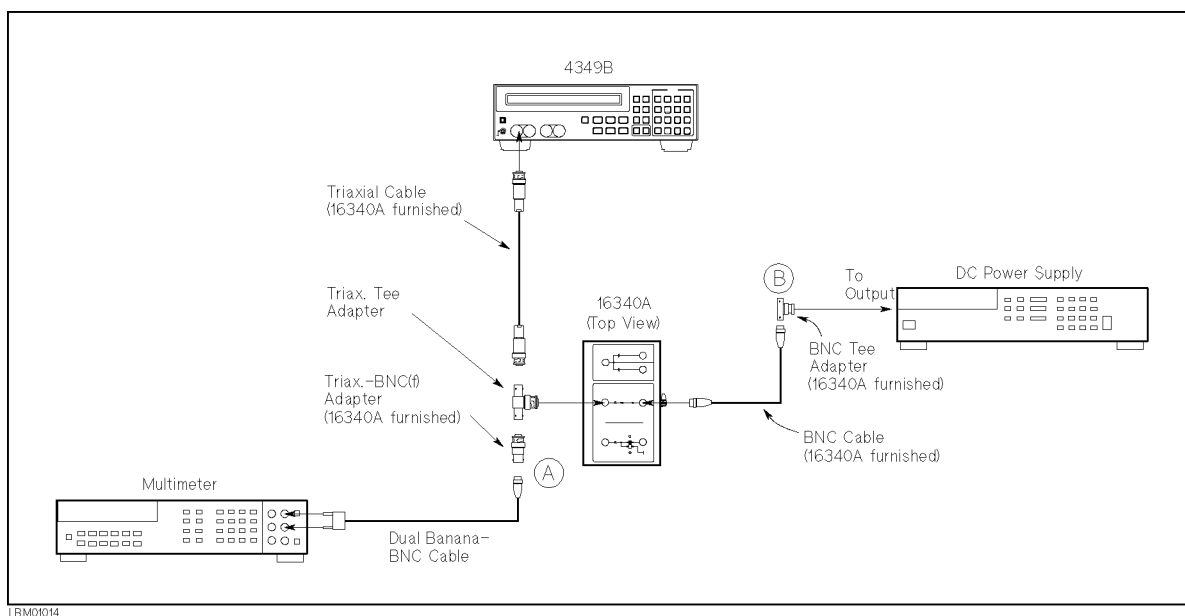
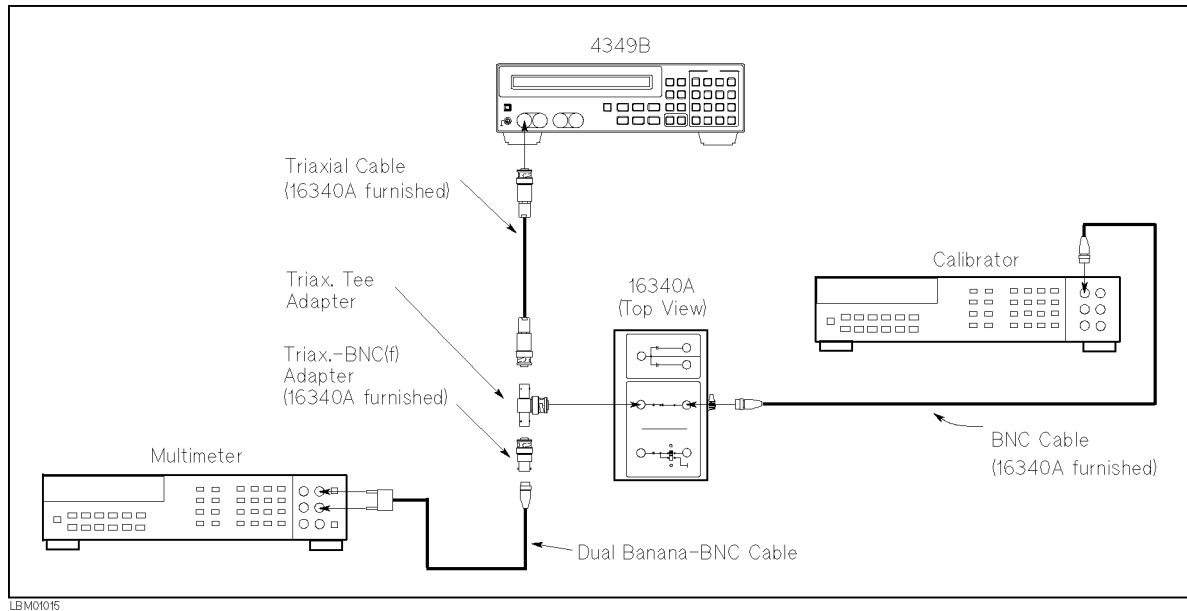

Figure 9-2. Ammeter Input Resistance Test Setup Using DC Power Supply
Figure 9-3. Ammeter Input Resistance Test Setup Using DC Voltage Calibrator
13. Set up the equipment as shown in Figure 9-2. If the DC Voltage Calibrator listed in Table 9-2 is available, setup the equipment as shown in Figure 9-3.
17. Disconnect the Dual Banana-BNC(m) cable from Ⓐ of Figure 9-2, and connect it to Ⓑ. If the voltage calibrator is used, skip this step.